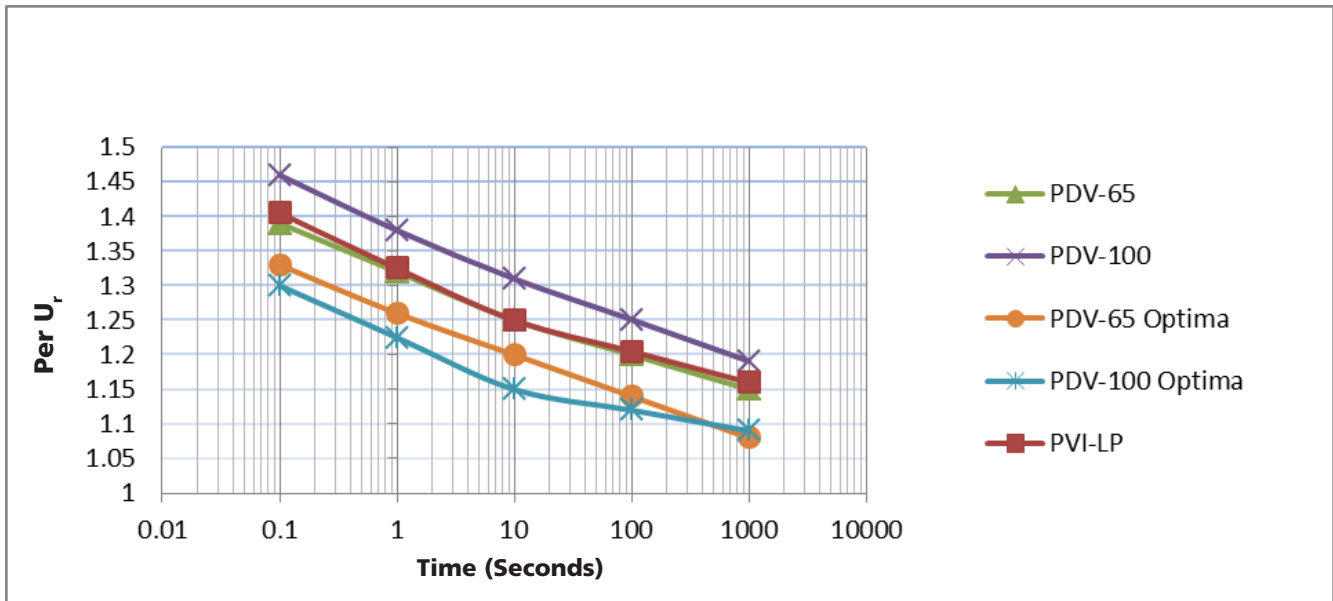

Figure. 3: IEC TOV Capability with no Bracket, No Prior Duty
6. Power Frequency Voltage versus Time Characteristics: Power systems are not ideal and periodically have temporary over voltages (TOV) caused by a variety of reasons. During TOV instances on the system, the arrester will be subject to elevated voltages and therefore higher 60Hz current through the unit. The magnitude and duration of the system generated TOV that the arrester can withstand is best expressed graphically. The three curves in Figure 3 show the TOV capability versus time for the Hubbell arresters in this catalog. The Optima utilizes a capacitance-based isolator which improves the TOV capability while increasing the reliability of disconnecter function. The Optima technology results in a family of TOV curves that are a function of the voltage U_r of the arrester.